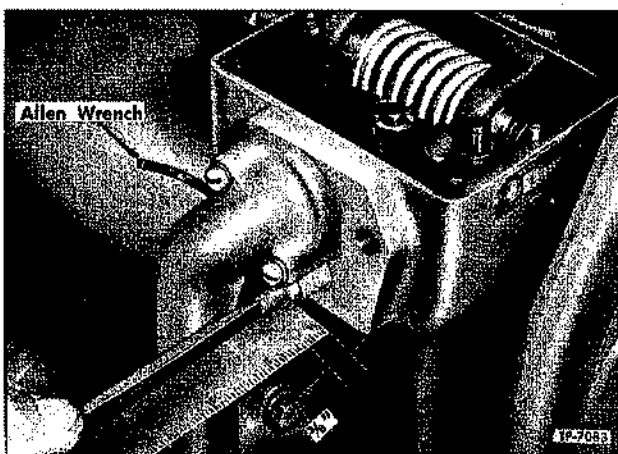

Figure 39—Preliminary Adjustment of Modulating Cam
B. Start engine and make preliminary idle speed setting by setting speed at 385 RPM with low speed screw (43) and advancing speed to 400 RPM by turning in buffer screw (46). Tighten low speed locknut (42).
D. Remove governor control housing cover (7) and lever assembly. Remove cover gasket. Disconnect link rod between differential lever and injector control tube lever, then remove link thru governor.
E. Thread buffer screw (46) outward 4 or 5 turns.
F. Loosen cam adjusting screw locknut (49). Remove plugging screw (51), and use Allen wrench to loosen cam lock screw (50) approximately $\frac{1}{8}$ turn, to permit cam to be moved in and out without allowing it to turn in housing.
G. Thread cam adjusting screw (48) into housing until screw extends $\frac{3}{8}$ " beyond locknut when nut is against sleeve (Fig. 39). Tighten cam lock screw with Allen wrench to hold cam in position until adjusted later.